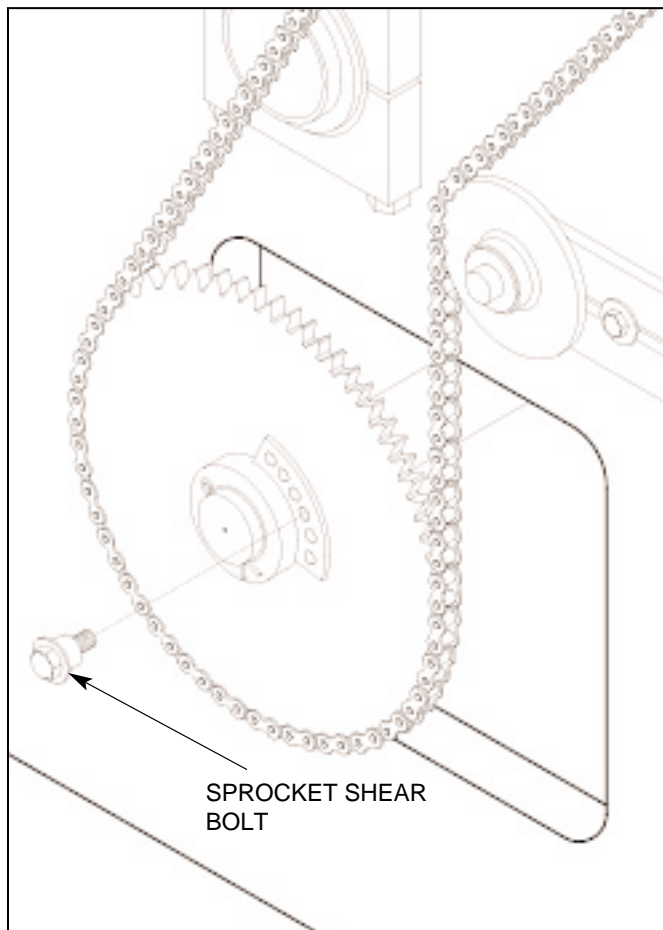

Figure 4.12 REMOVING SHEAR BOLT
4.1.19 Remove the shear bolt from the pallet feeder drive sprocket (see figure 4.12).